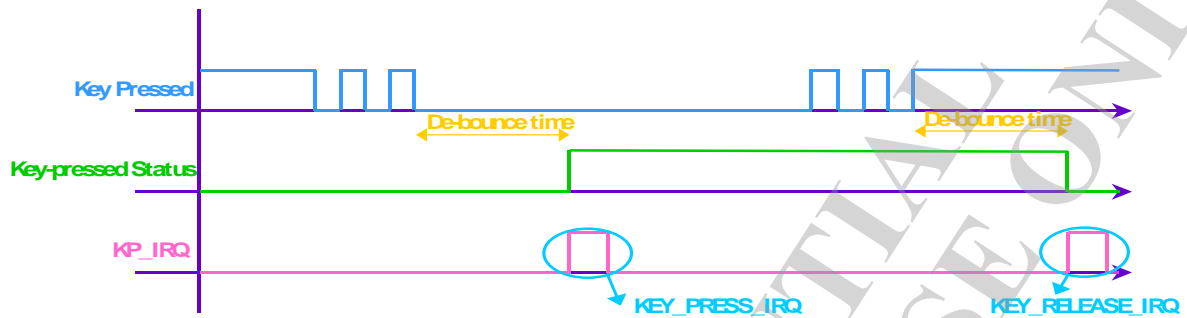
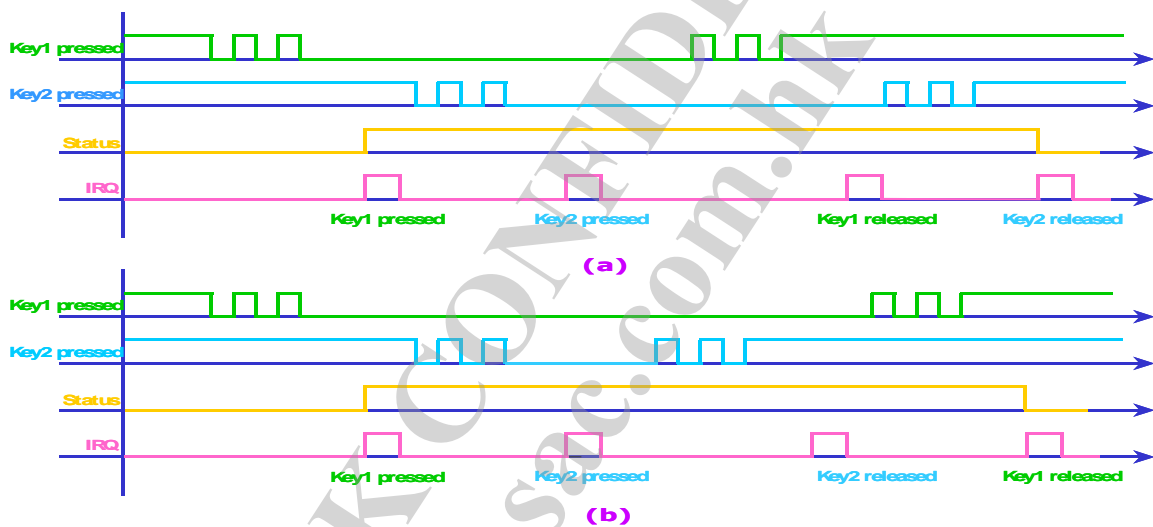

Figure 27. One key pressed with de-bounce mechanism denoted
Figure 28. (a) Two keys pressed, case 1; (b) Two keys pressed, case 2
This keypad can detect one or two keys pressed simultaneously. Figure 27 shows the one key pressed condition. Figure 28(a) and Figure 28(b) illustrate the two keys pressed cases. Since the key pressed detection depends on the HIGH or LOW level of the external keypad interface, if the keys are pressed at the same time and there exists a key that is on the same column and the same row with other keys, the pressed key cannot be correctly decoded. For example, if there are three key pressed: key1 = (x1, y1), key2 = (x2, y2), and key3 = (x1, y2), then both key3 and key4 = (x2, y1) will be detected, and therefore they cannot be distinguished correctly. Hence, the keypad can detect only one or two keys pressed simultaneously at any combination. More than two keys pressed simultaneously in a specific pattern will retrieve the wrong information.